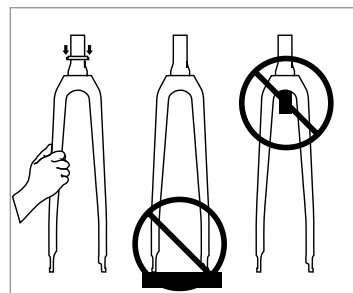

Figure 2
1. Install crown race according to manufacturer’s instructions. Do not place the fork on the dropout tips or crown while installing the race, doing so can damage the fork and could cause failure (fig. 2).